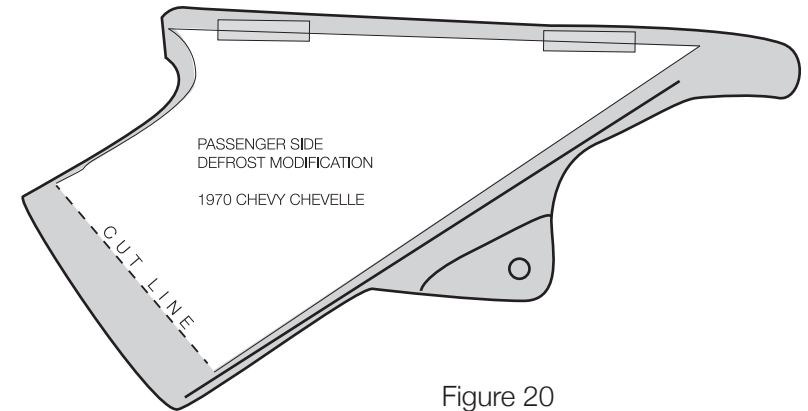
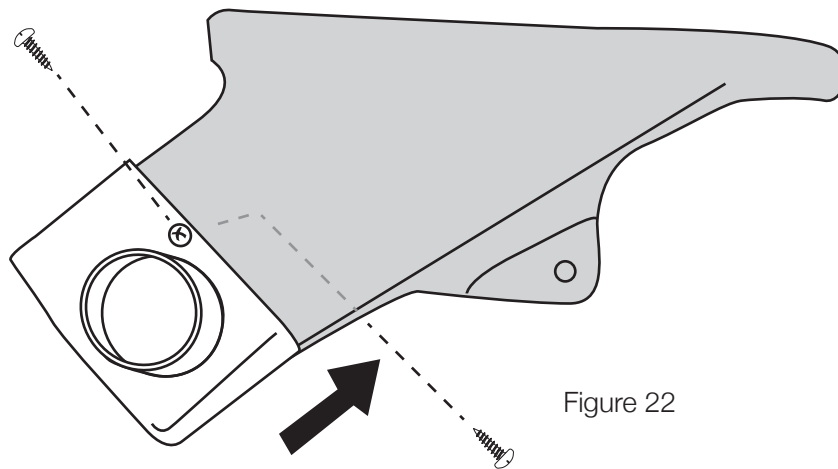
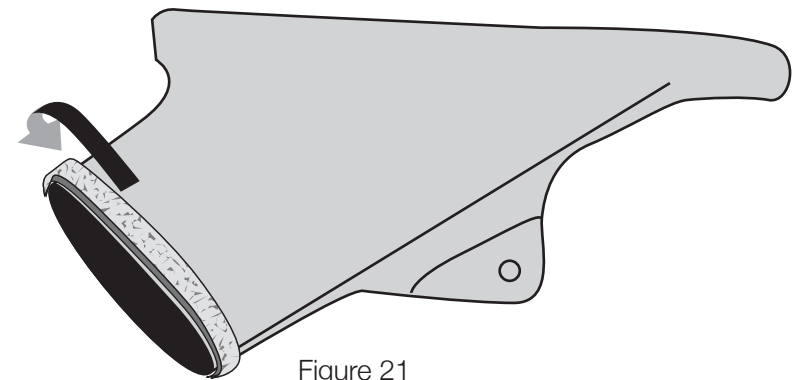

Figure 20
Figure 22
Figure 21
**BAG KIT E:** Attach passenger side defrost template to passenger side defrost duct. Cut the duct as shown in figure 20. Attach  $\frac{1}{4}$  x  $\frac{1}{2}$  open cell foam around the duct inlet edge (figure 21). Slide passenger side defrost duct adapter over the foamed inlet to the edge of the foam. Pre-Drill duct with a  $\frac{5}{32}$ " drill bit on both sides of the duct. Attach the adapter to the duct using two #10 x  $\frac{5}{8}$  PHP screws (figure 22).